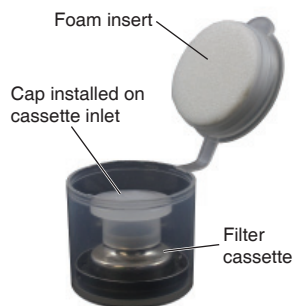

Figure 4. Cassette in Transport Container
If not ready to sample immediately or if transporting loaded cassettes to a sampling location, place the filter cassette (with cap in place on the inlet) in the transport container. Ensure that the foam insert is in the container lid (Figure 4).
7. Remove the sampling media. Seal the sorbent tube ends with the caps provided. Place the filter cassette, with cap on, in the transport container; place the foam insert in the lid (Figure 4).